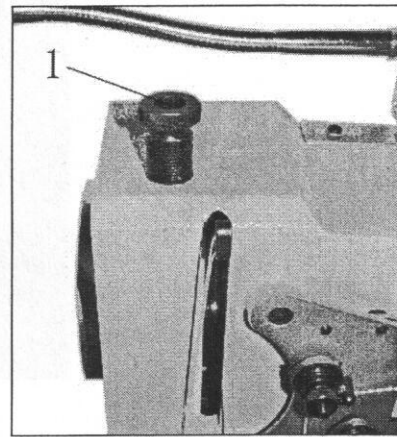

Fig.7
3.6 Pressure adjustment setting of presser wheel (Fig 7)